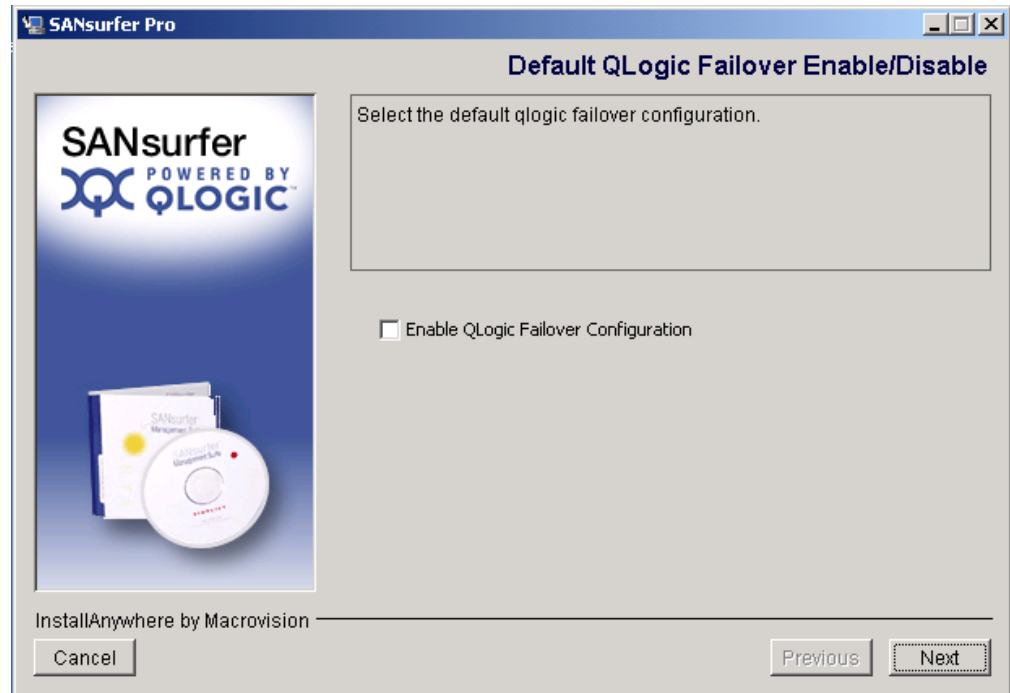

Figure 12. Default QLogic Failover Enable/Disable window
12. If you are installing the SANSurfer FC HBA Manager on a Windows 2000/Windows Server 2003, Novell NetWare, or Red Hat/SuSE Linux system, the Default Failover Enable/Disable window opens as shown in Figure 12 on page 49.